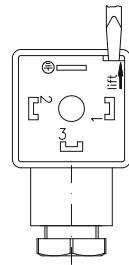

Fig. 8
- ↳ Open the core ⑧ of the cable socket ② with a screwdriver or similar tool (→ Fig. 8).